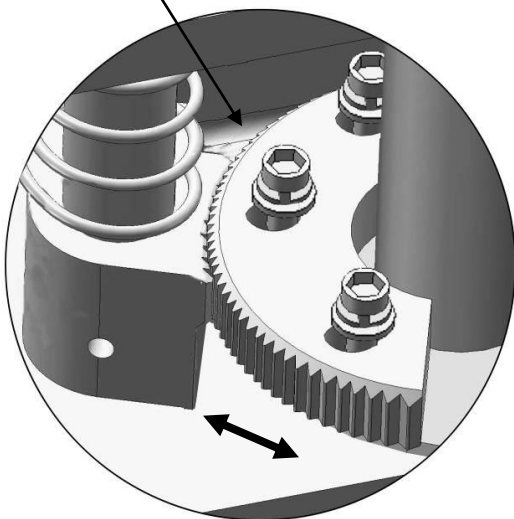

Fig. 36
3. Adjust moon gear as direction of arrow (**See Fig.36**).